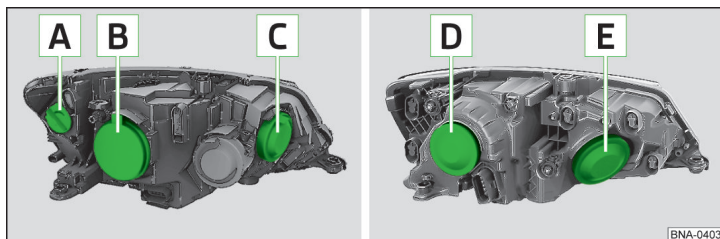

Fig. 106 Halogen headlights/halogen projector headlights
Bulb arrangement » fig. 106
- › Remove the protective cap **B** » fig. 106 on page 99.
- › Fit protective cap **B** » fig. 106 on page 99 Insert.
- › Remove the protective cap **C** » fig. 106 on page 99.
- › Fit protective cap **C** » fig. 106 on page 99.
- › Remove the protective cap **D** » fig. 106 on page 99.
- › Fit protective cap **D** » fig. 106 on page 99.
- › Remove the protective cap **E** » fig. 106 on page 99.
- › Fit protective cap **E** » fig. 106 on page 99.